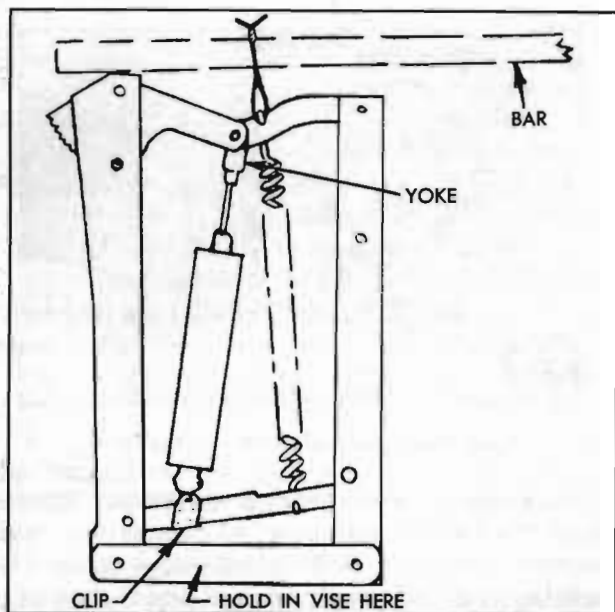

Figure 13-65—Removing Spring from Regulator
6. To replace the regulator spring, hold regulator frame securely in a vise, then use a wood pry bar and loop of heavy wire to unhook old spring and install new one as shown in figure 13-65.
6. To replace the lift spring, hold lift frame securely in a vise, then use a wood pry bar and loop of heavy wire to unhook old spring and install new one as shown in figure 13-65.